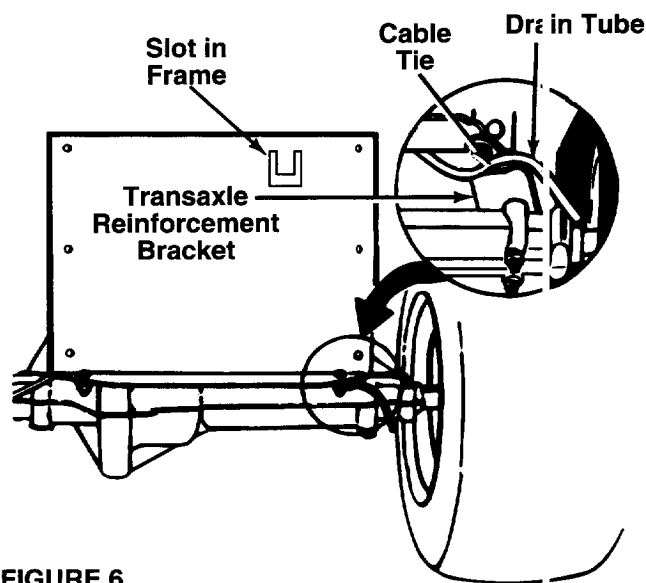

FIGURE 6.
6. Secure battery by hooking battery strap into slot in rear frame, under the fender. See figure 6.
- ← See figure 6. Be certain drain tube is routed away from the wheel rim.